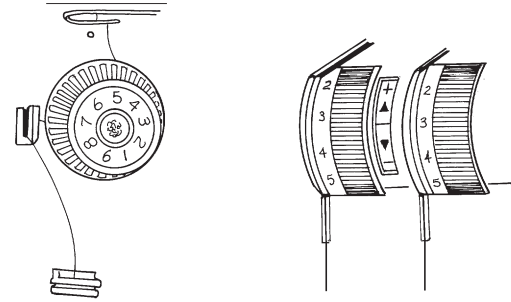

Fig. 16-10
16. Tension control. The dial or knob with inner disks that apply pressure to the thread as it passes through the disks. There is one tension control for each spool of thread used in forming the serger stitch. (Fig. 16-10)